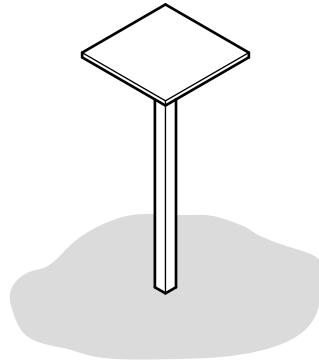

Fig. 8
- (c) Fig. 8 shows part of a bird feeding platform that is to be made as a free-standing structure with a single central support. The support is shown resting on the ground.